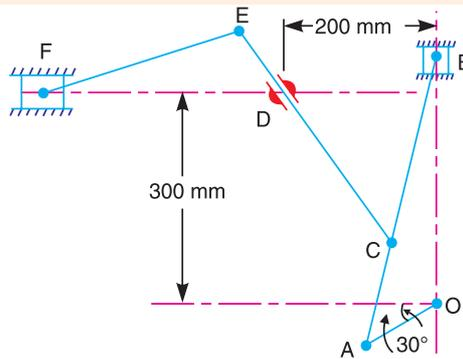

Fig. 7.13.
**Example 7.5.** In a mechanism shown in Fig. 7.13, the crank  $OA$  is 100 mm long and rotates clockwise about  $O$  at 120 r.p.m. The connecting rod  $AB$  is 400 mm long.